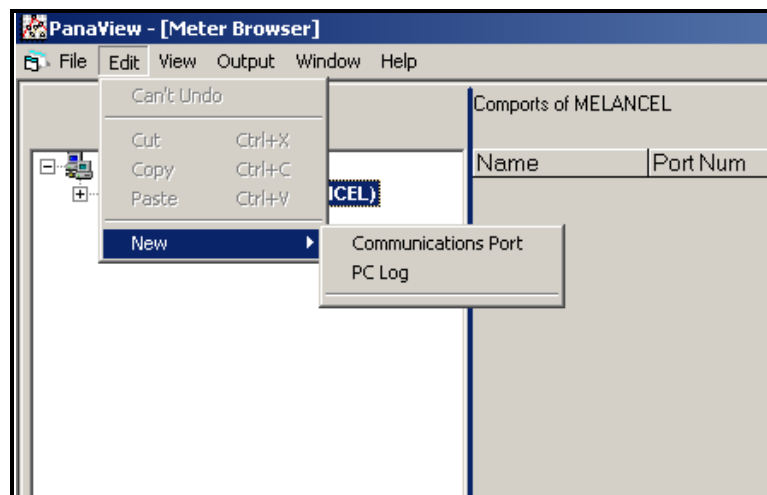

Figure C-1: Edit Menu
4. Click on the *New* menu option to select it, and a submenu opens with two choices on it (see Figure C-1 below).